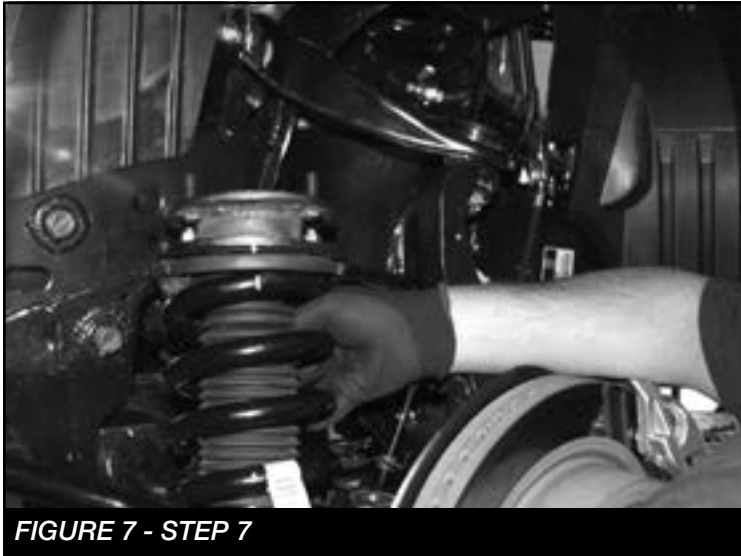

FIGURE 7 - STEP 7
6. Locate FT60067BK (Driver Strut Spacer) and install onto the drivers factory coilover using the factory nuts. Install the coilover back into the vehicle using the supplied 3/8" hardware for the upper mount and the factory hardware for the lower mount. Torque to 52 ft-lbs. **SEE FIGURE 7**